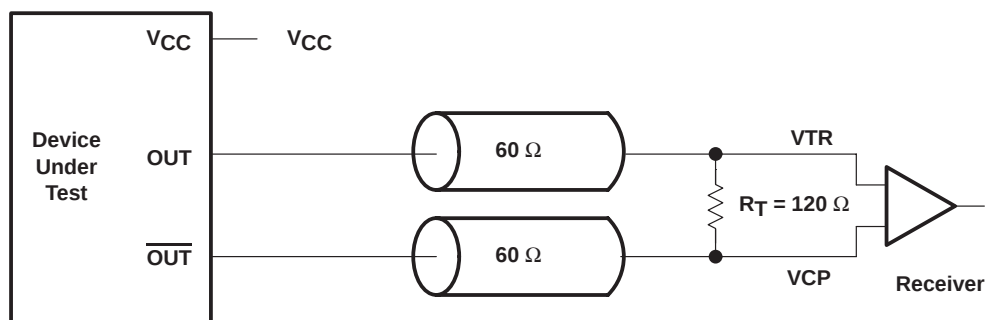

Figure 3. Differential Signal Using Direct Termination Resistor
6. Differential input signal voltage specifies the differential voltage $|V_{TR} - V_{CP}|$ required for switching, where V_{TR} is the true input level and V_{CP} is the complementary input level (see figure 3).
[‡] The value of V_{OC} is expected to be |V_{TR} + V_{CP}|/2. In case of each clock directly terminated by a 120-Ω resistor, where V_{TR} is the true input signal voltage and V_{CP} is the complementary input signal voltage (see Figure 3).
Figure 3 shows the differential clocks are directly terminated by a 120-Ω resistor.